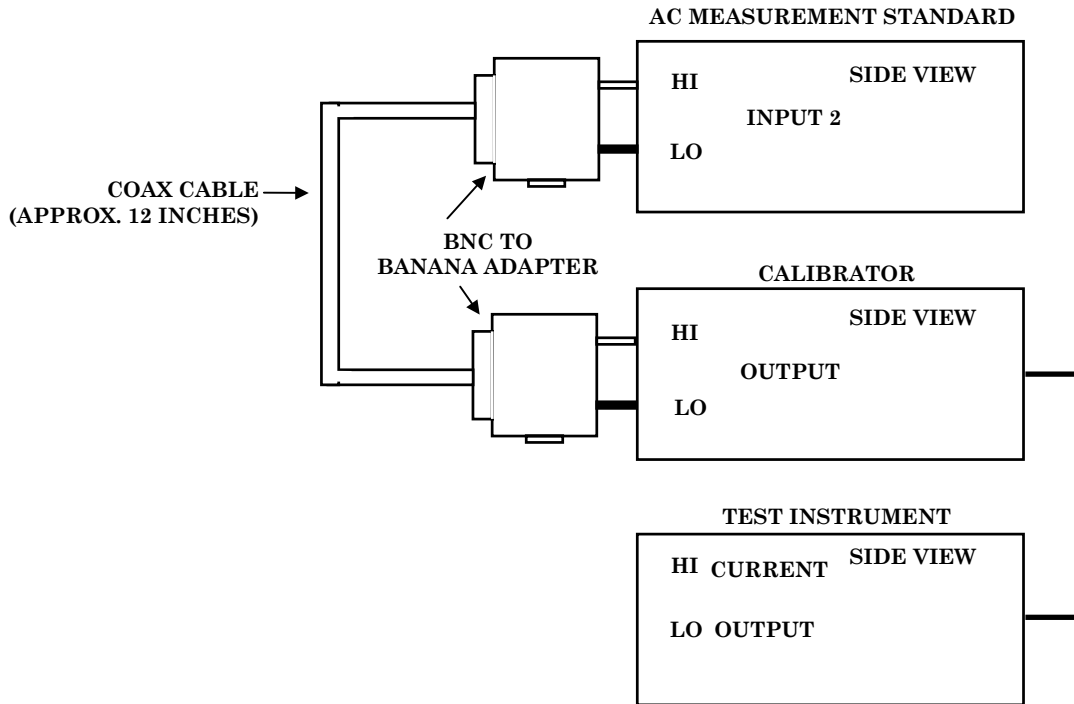

Figure 14. High ac voltage accuracy.
a. Connect equipment as shown in figure 14. Press **INPUT 2** pushbutton on ac measurement standard.